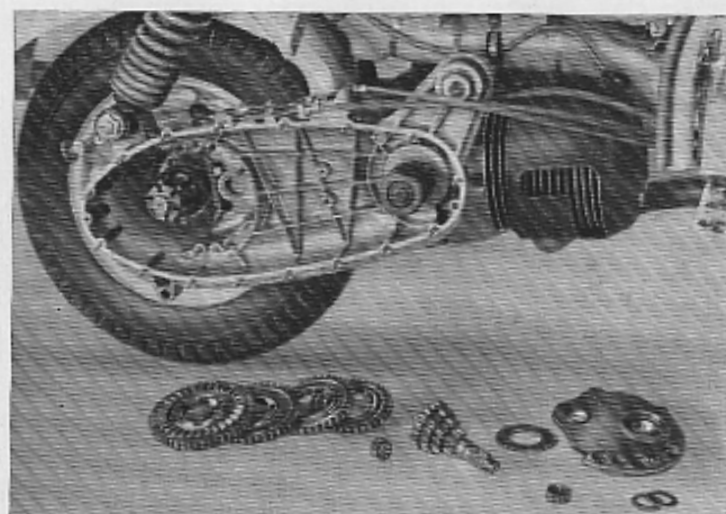

Fig. 11
- 14 Withdraw gear shaft complete with gears on layshaft. (See Fig. 11).